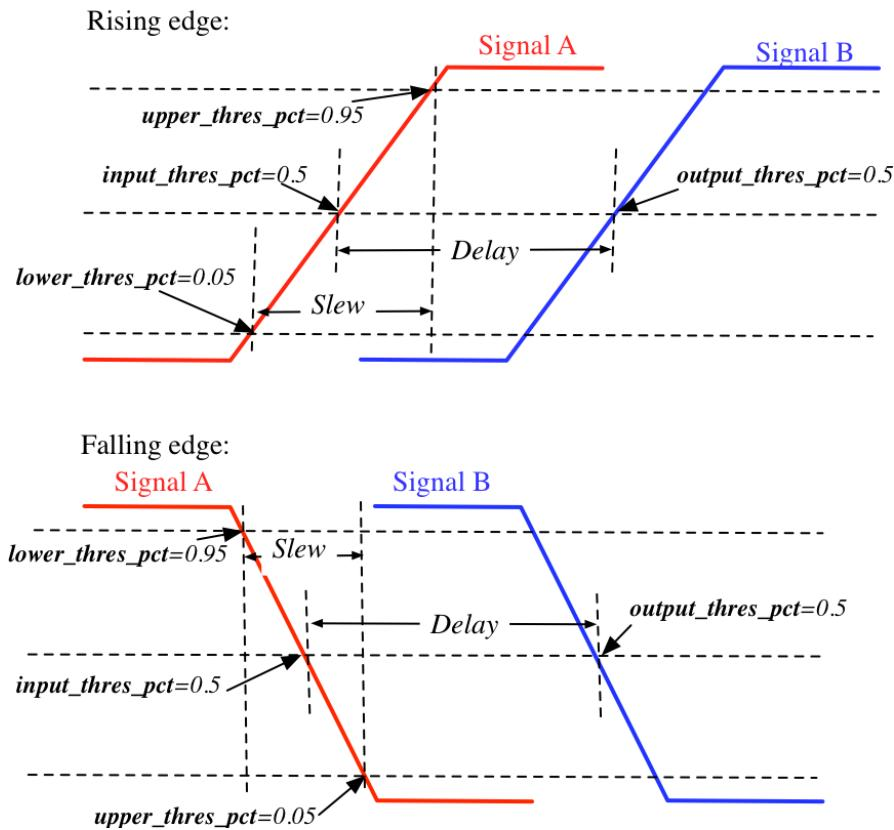

Fig. 7.13: An illustrative example on measuring the slew and delay of signals
- `upper_thres_pct=<float>` the ending point in measuring the slew of a rising edge. It is expressed as a percentage of the maximum voltage of a signal. For example, the meaning of `upper_thres_pct=0.95` is depicted in Fig. 7.13.
- `lower_thres_pct=<float>` the starting point in measuring the slew of a rising edge. It is expressed as a percentage of the maximum voltage of a signal. For example, the meaning of `lower_thres_pct=0.05` is depicted in Fig. 7.13.
Fig. 7.13 depicts the definition of the slew and delays of signals and the parameters that can be supported by FPGA-SPICE.